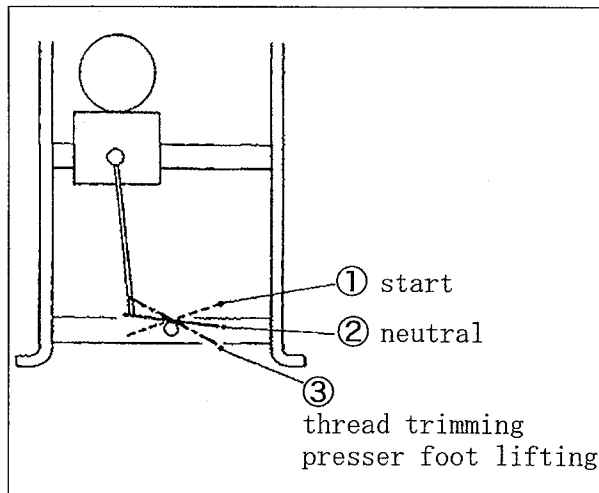

Fig. 1-4
(1) Heel back the pedal to raise the presser foot.
(2) Place the material under the presser foot and toe down the pedal. (Fig. 1-4 ①)
(3) Release the pedal. (Fig. 1-4 ②)
(4) Heel back the pedal. (Fig. 1-4 ③)
(5) Release the pedal. (Fig. 1-4 ②)